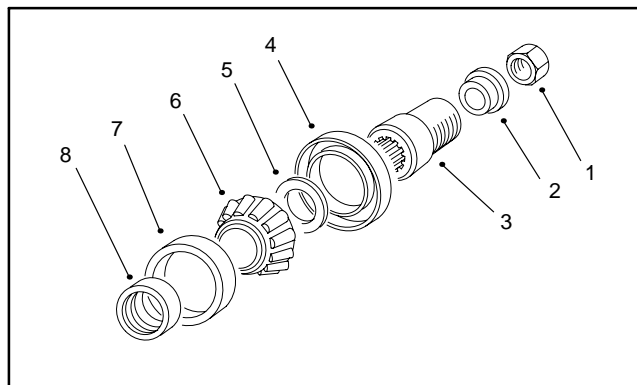

Figure 19
11. Install differential gear holder to carrier to retain spur gear (see Special Tools). Remove the nut, spacer, pinion coupler, and shim from the pinion shaft (Fig. 19). Remove differential gear holder from carrier.
13. Removing the drive pinion releases the spur gear, bearing spacer, and outer pinion bearing for removal (Fig. 19 and 21).
14. Remove oil seal from housing (Fig. 19).